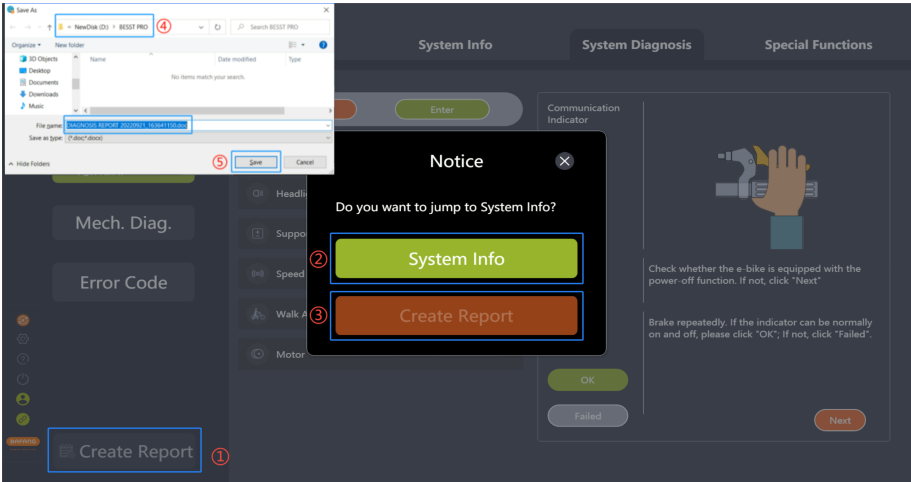

Fig 7-8 Create Report in System Diagnosis
1. Click "Create Report", and a pop-up window will prompt "Do you want to jump to System Info?" (Figure 7-8).